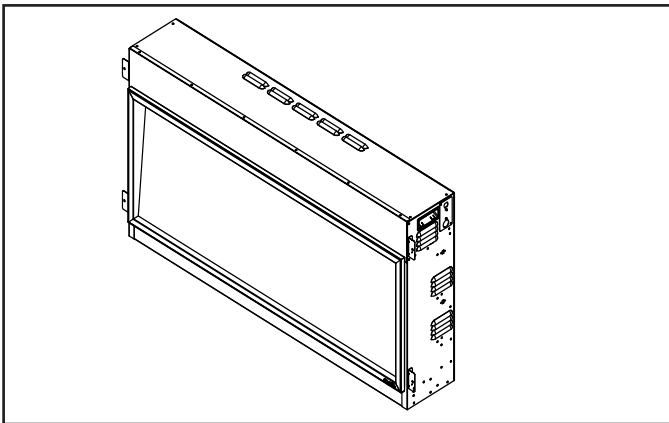

Figure 4.2 Mounting Brackets
1. Fold out the four mounting brackets. See Figure 4.2.